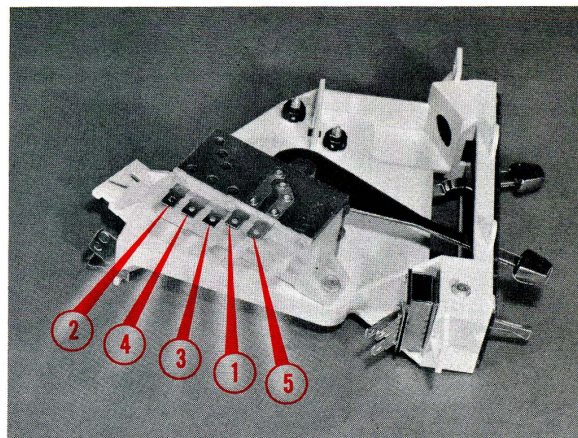

Fig. 14—Combination electrical and vacuum control switch
There are actually two input or feed terminals at the switch. The terminal at the right (5), in Figure 14, is for the blower circuits. The second terminal from the right (1) is the input for the compressor clutch circuit.